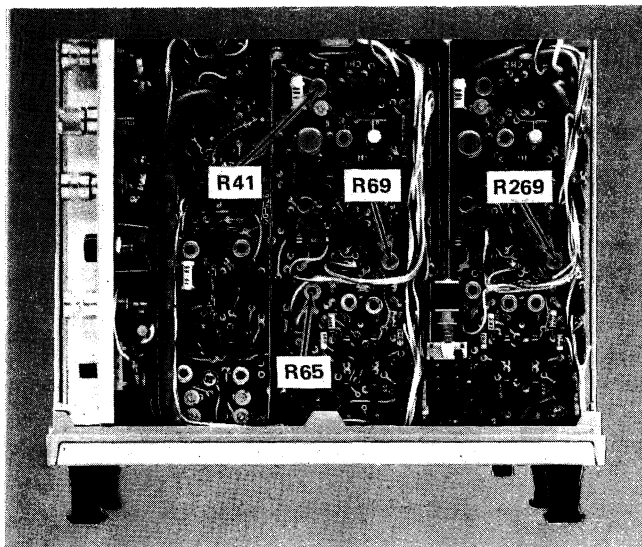

Fig. 5-13. Location of Limit Centering and Vertical Gain controls.
- ADJUST—R69, Limit Centering control, for least compression. Compression should not exceed 0.15 division. See Fig. 5-13 for location of R69 and R269.
d. ADJUST—R65, X1 Vertical Gain adjustment, for 5.00 divisions of display. See Fig. 5-13 for location of Gain controls.